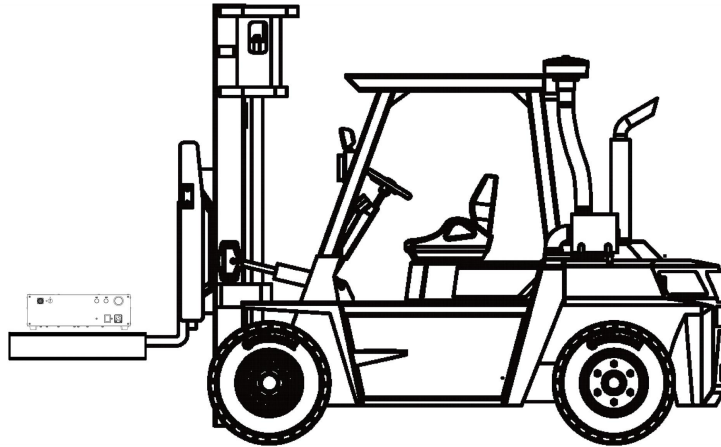

Figure 2-1 Schematic diagram of control cabinet transportation by forklift
- A transportation tray should be provided under the control cabinet during transportation, as shown in Figure 2-1.